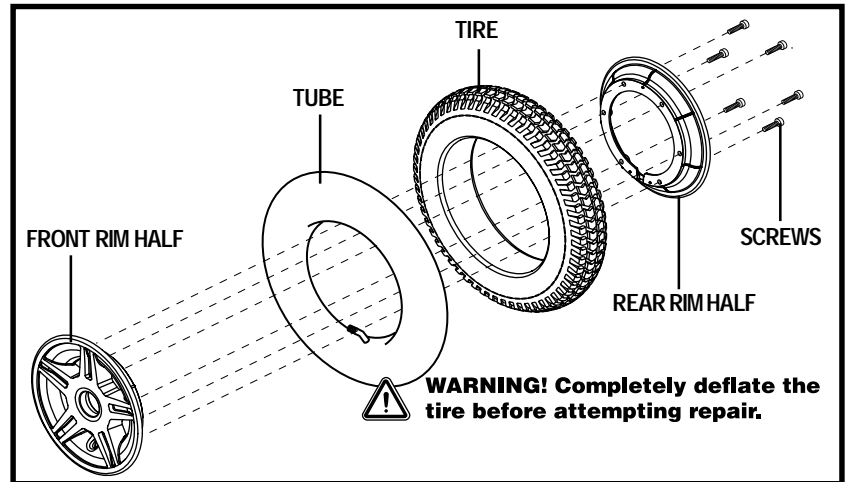

Figure 25. Jazzy 600 Drive Wheel Disassembled
6. Remove the screws from the rim assembly and separate the front and rear rim. See figure 25.